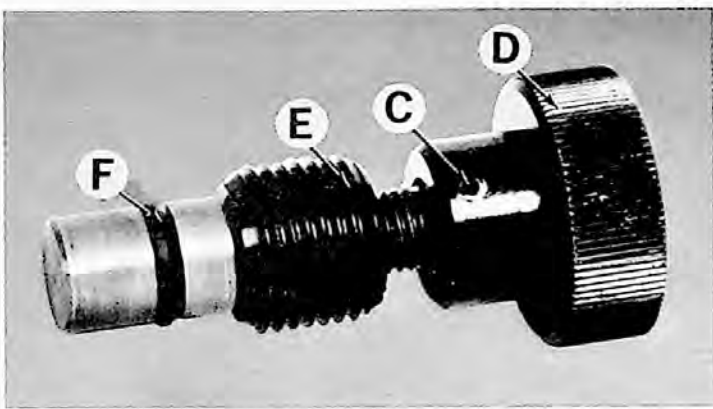

Figure 14 — Feed Rate Adjusting Screw
2. Unscrew piston stop assembly "B". Remove roll pin "C", Figure 14, knob "D", adjusting nut "E" and O-ring "F". Do not misplace brass plug under screws "A", Figure 13.
1. Replace O-ring "F", Figure 14, adjusting nut "E", knob "D" and roll pin "C".
2. Thread piston stop assembly "B", Figure 13 into casting until adjusting nut "E", Figure 14, is flush with casting. Turn knob "D" down until it just contacts nut "E". Connect air pressure at control unit.
(a) Turn knob "D", Figure 14, counter-clockwise until adjusting nut "E" moves a fraction of a turn. Tighten set screw under lock screw "A". Turn knob "D" down until it just contacts nut "E". Cycle threading unit.